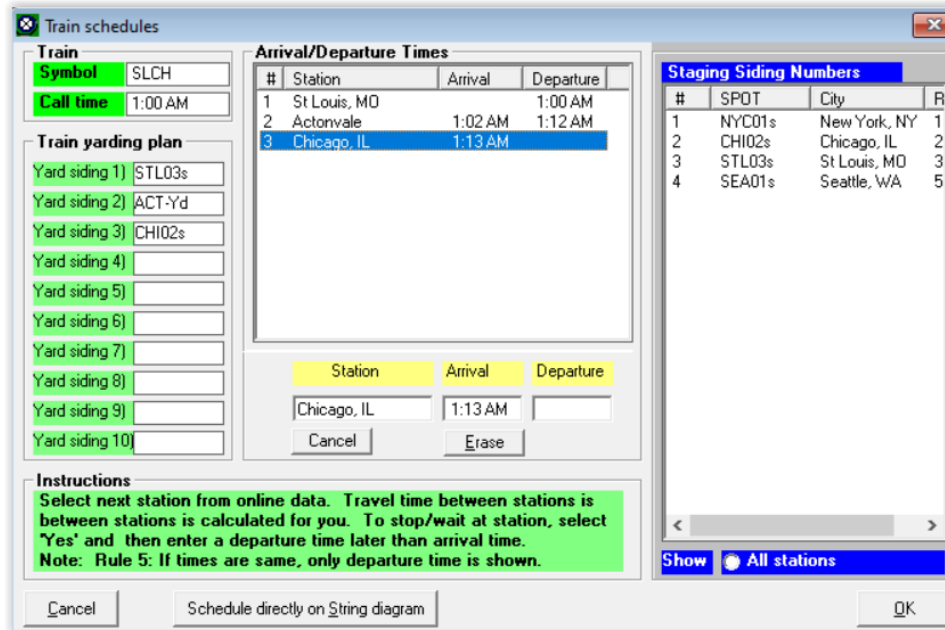

Figure 12-18
8. While this looks good the arrival time at Chicago is not what we want. To edit this double click on the third line of the timetable in the center pane. This will bring up Chicago, IL up for editing below the Arrival/Departure Times as shown in Figure 12-18
9. The new buttons shown in Figure 12-18 are used as follows: